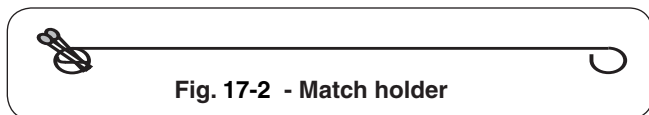

Fig. 17-2 - Match holder
2. Insert either a burning long-barrel butane lighter, a burning long-stem match, or a burning match held by a wire extension holder (Fig. 17-2) through the cooking grids to the burner. (Fig. 17-3). For backburners, hold the flame against the perforated material of the backburner. For sideburners, hold the flame against the burner.